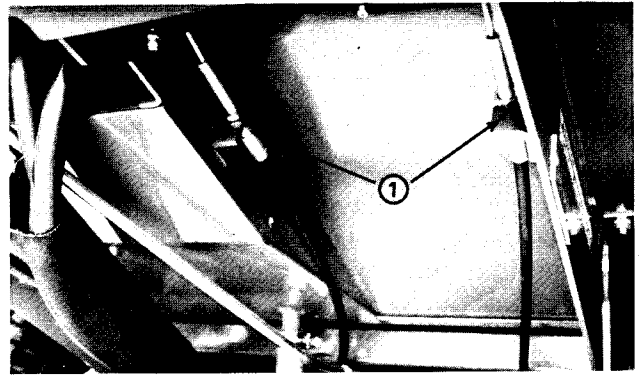
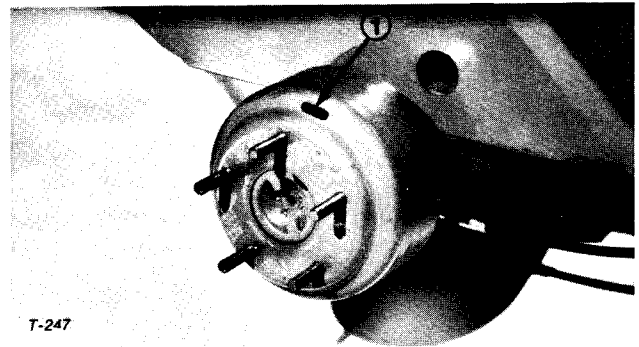

Figure 5
Figure 6
A. Loosen the front nut on the threaded end of the brake cable (Fig. 5).
4. Loosen (do not remove) the five (5) wheel nuts holding the wheel and tire assembly on the wheel studs.
6. Remove the wheel nuts and slide the wheel and tire assembly off the studs. Rotate the brake drum until the adjusting slot is at the top and centered over the star-nut that adjusts the brake shoes (Fig. 6).